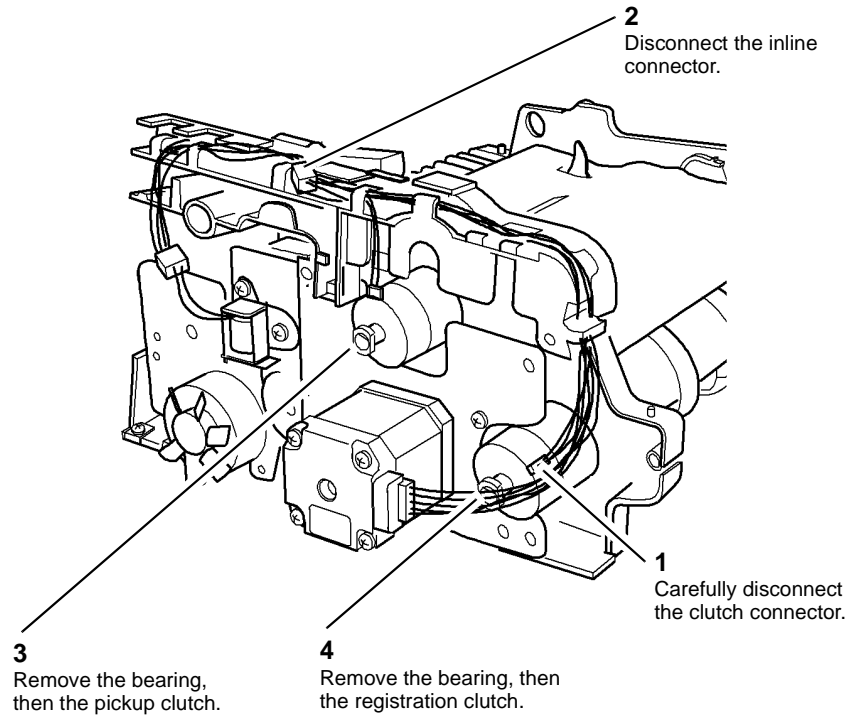

Figure 3 Clutch Removal
7. Remove the pickup clutch or registration clutch as necessary, Figure 3.